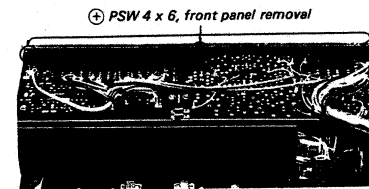

Fig. 2-2. Front panel removal
4. Remove the three self-tapping screws (⊕ PSW 4 x 6) behind the top edge of the front subchassis as shown in Fig. 2-2.